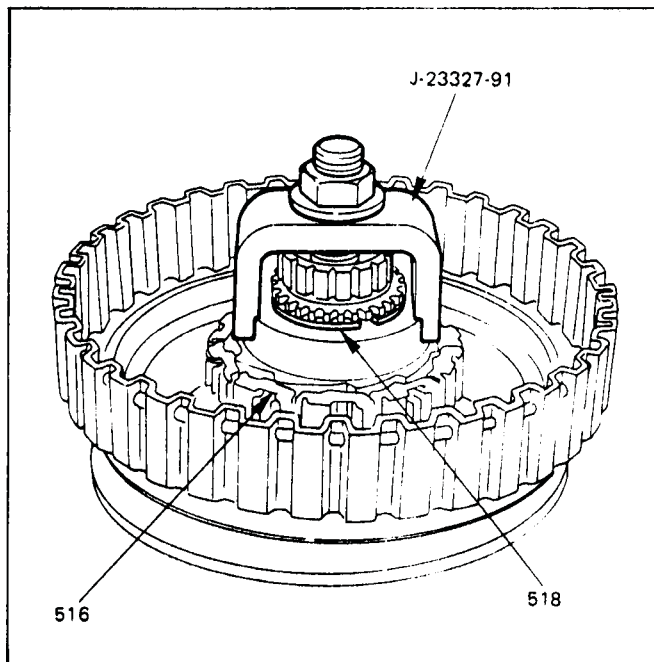

Figure 66
9. Place the entire assembly over J-23327 compressor held in a bench vise, and install adapter J-23327-91 as shown in Figure 66.
10. Compress piston return spring and install snap ring (See Figure 66).